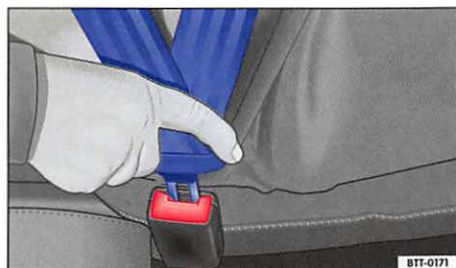

Fig. 50 Inserting the buckle tongue into the belt buckle.
- Insert the tongue into the correct buckle for your seat until you hear it latch securely $\Rightarrow$ **fig. 50**.